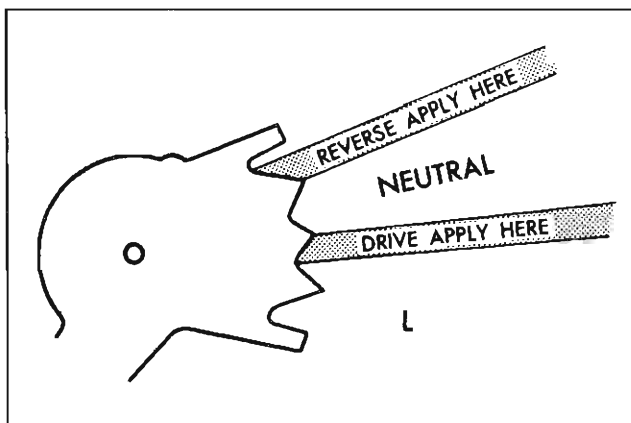

Fig. 7A-13 Shift Linkage Check Diagram
3. Insert J-8365 into manual valve bore as shown (Fig. 7A-14) with tab of gauge upward so it engages to forward port of the valve body.